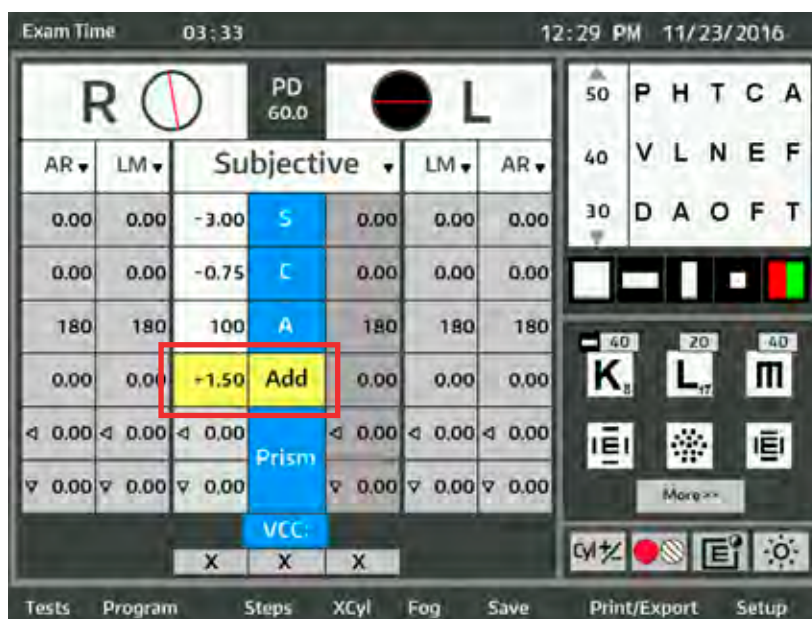

Figure IU-11 Near Vision Addition Active Boxes
2. Touch the **ADD** box in the main display area of the screen, activating the Near Vision Addition value field for both eyes. Refer to Figure IU-11.